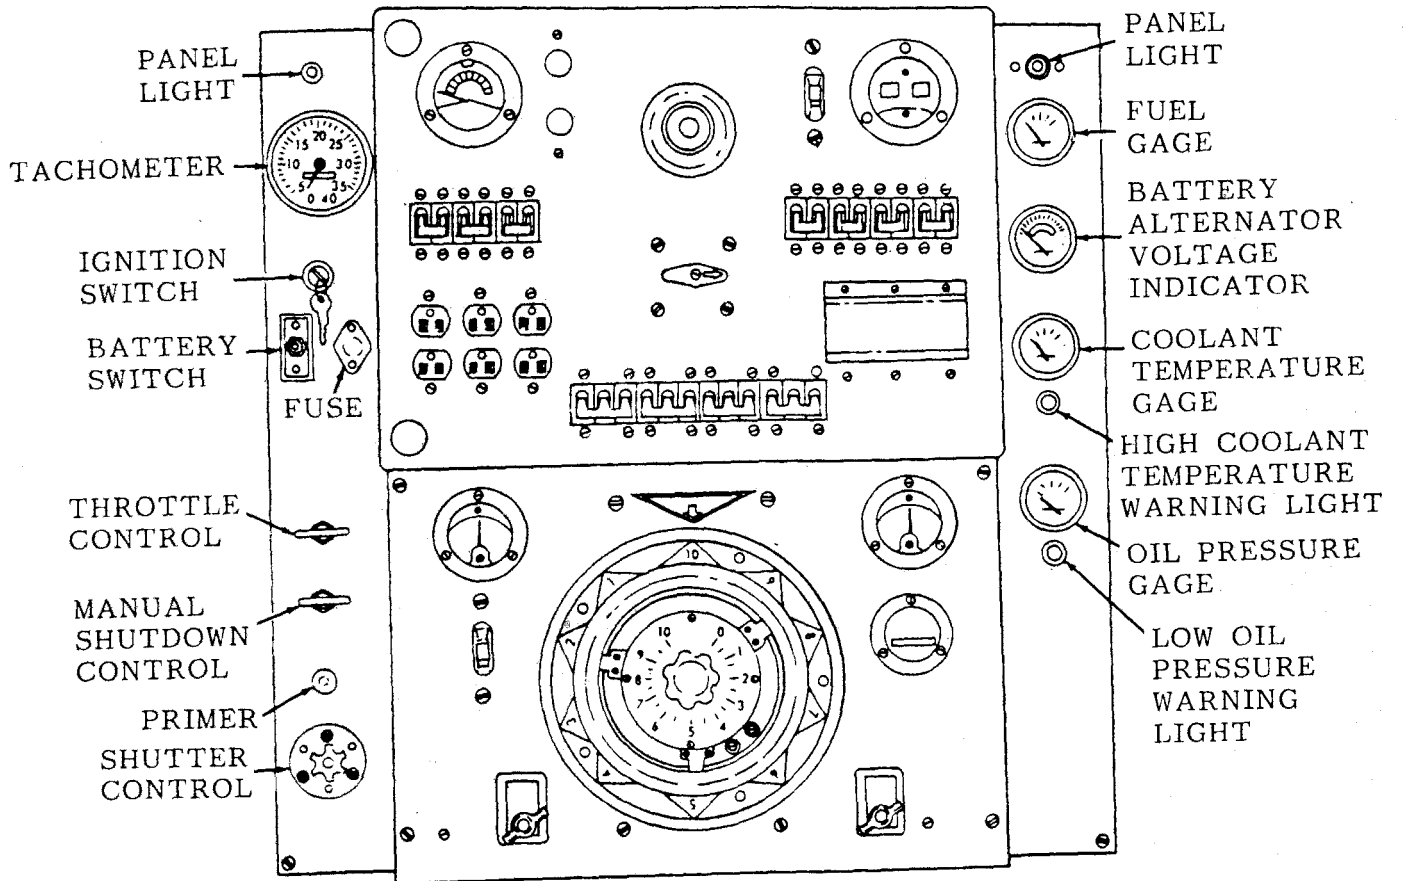

Figure 2-2. Engine Controls and Instruments.
- b. Instrument Panel Lights. The instrument panel lights shown in figure 2-2 are turned on with the battery switch shown in figure 2-2.
- e. Battery Switch. The battery switch (fig. 2-2) is used to open the 24-volt DC circuit between the battery and all 24-volt controls and instruments to prevent the drainage of DC current from the battery when the end item is not in use. All 24-volt controls, instruments, or engine safety devices will not function if the battery switch is OFF.
- f. Throttle Control. The throttle control (fig. 2-2) is used to adjust the engine speed to any desired rpm, from idle to 1,800 rpm. Turn the handle counterclockwise and pull out to increase and push in to decrease engine rpm; then, turn handle clockwise until the throttle is locked in position, Reduce the engine rpm to idle speed before stopping engine.
- g. Manual Shutdown Control. A manual quick-stop control for stopping the engine. To stop the engine, pull the control out (fig. 2-2).
- i. Shutter Control. The shutter control (fig. 2-2) is used to open and close the radiator shutters to decrease the engine warmup time, and to maintain normal engine temperature when operating in unusually cold temperatures. Turn knob counterclockwise to close shutters. Open shutters when the engine operating temperature reaches normal, by turning the knob clockwise. When the engine is running with the radiator shutters closed, constant surveillance of the instruments must be maintained to prevent damage to the engine by overheating.
- j. Fuel Level Gage. The fuel level gage (fig. 2-2) shows the amount of fuel in the engine fuel tank when the battery switch is turned on.
- k. Battery Alternator Voltage Indicator. The yellow and red on the left side of the battery generator voltage indicator (fig. 2-2), shows the condition of the batteries with the engine stopped and with the battery switch (fig. 2-2) turned on. The needle pointing to the separation between yellow and red indicates 22-volts, to red, indicates lower voltage; and yellow indicates higher voltage. When the engine is running, the green and red on the right side of the voltage indicator shows the DC voltage charging rate of the generator. The needle pointing to the offset at top of green, indicates 28-1/2 volt charging rate. When the engine is running at normal operating speed, the needle should point to green. If the needle points to red or yellow, stop the engine to prevent further damage to the charging system.
- l. Coolant Temperature Gage. The coolant temperature gage (fig. 2-2) indicates the temperature of the coolant in the engine. The normal operation temperature should be between 180° and 195° F.
- m. High Coolant Temperature Warning Light. The warning light, (fig. 2-2), warns the operator if the engine coolant temperature becomes too hot for the safe operation of the engine. If the coolant temperature reaches 212° F., the warning light will glow red, and the engine must be stopped to prevent damage.
- n. Oil Pressure Gage. The gage (fig. 2-2) indicates the engine oil pressure. When the engine is running at normal operating temperature and speed, the oil pressure should be 40 to 60 pounds. A cold engine will have a higher oil pressure and a hot engine will have lower oil pressure.